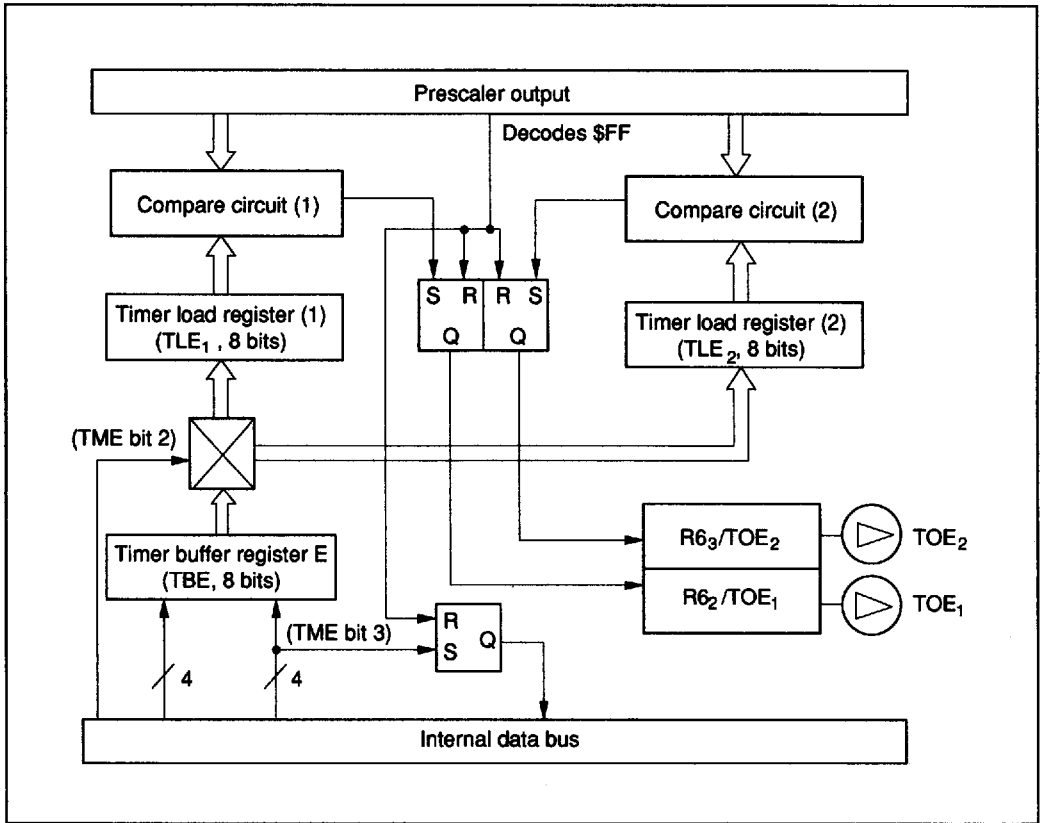
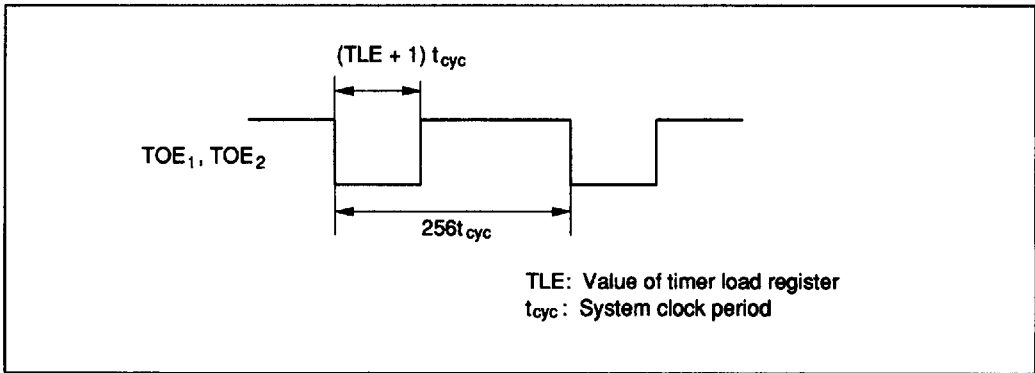

Figure 33 Block Diagram of Timer E
Figure 34 Variable-Duty Pulse Output Waveform
**Timer E:** Outputs two variable-duty pulses (PWM). The block diagram is shown in figure 33. The duty ratio can be selected by the setting of the load register (figure 34). To write data into the load register, timer buffer register E must be written to first. Data written to the buffer register is transferred to the load register by an overflow from the prescaler. Since the two channels use the same buffer register, the destination load register is selected by the bit 2 setting of the timer mode register (TME). The completion of data transfer from the buffer register to the load register can be checked by reading bit 3 of TME.